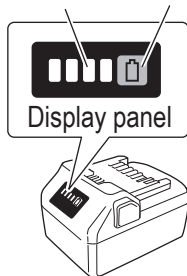

Fig. 16
- You can check the battery's remaining capacity by pressing the remaining battery indicator switch to light the indicator lamp. (**Fig. 16, Table 4**)